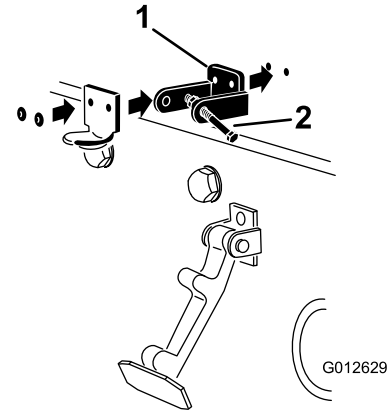

Figure 7
3. While aligning the mounting holes, position the CE lock bracket and the hood latch bracket onto the hood. The lock bracket must be against the hood (Figure 7). Do not remove bolt and nut assembly from the lock bracket arm.
5. Rivet the brackets and the washers to the hood (Figure 7).